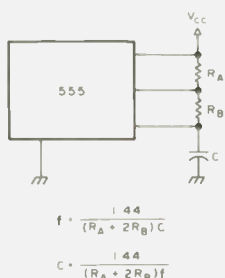

Fig. 5. 555 oscillator circuit.
In Fig. 5, we have a more complex design formula. For the oscillation frequency of the 555 timer, we need to use two resistors and a capacitor. Fig. 6 shows the program for this circuit. Note that the program is identical except for some additional lines. What I've done is generate two sets of standard resistance values, R(A) and R(B), and calculated C for the 66² possible combinations between them.